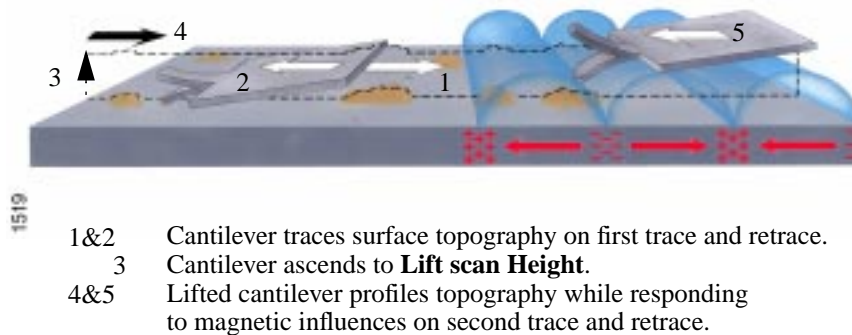
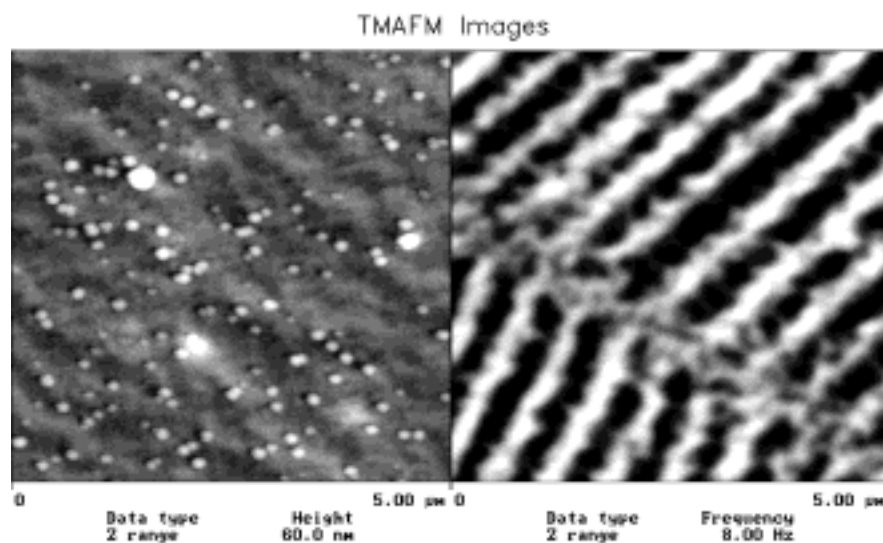
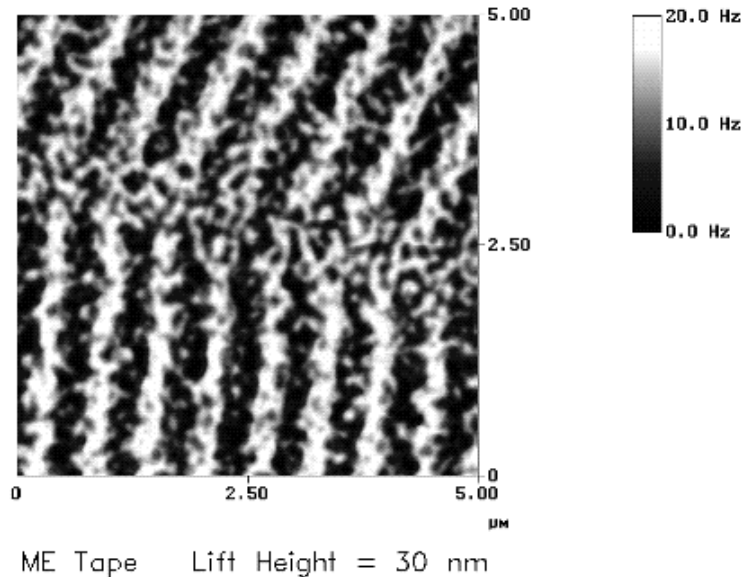

Figure 13.1. MFM LiftMode principles.
Figure 13.7. Topographic (left) and magnetic force gradient image (right) of metal evaporated tape at 100 nm *Lift scan height*.
Figure 13.8. High-resolution magnetic force gradient image of metal evaporated tape at 30 nm *Lift scan height*.
In MFM, a tapping cantilever equipped with a special tip is first scanned over the surface of the sample to obtain topographic information. Using **LiftMode** as shown in Figure 13.1, the tip is then raised just above the sample surface. The surface topography is scanned while being monitored for the influence of magnetic forces. These influences are measured using the principle of *force gradient detection*. In the absence of magnetic forces, the cantilever has a resonant frequency f_0 . This frequency is shifted by an amount Δf proportional to vertical gradients in the magnetic forces on the tip. The shifts in resonant frequency tend to be very small, typically in the range 1-50 Hz for cantilevers having a resonant frequency $f_0 \sim 100$ kHz. These frequency shifts can be detected three ways: **phase detection**, which measures the cantilever's phase of oscillation relative to the piezo drive; **amplitude detection**, which tracks variations in oscillation amplitude; and **frequency modulation**, which directly tracks shifts in resonant frequency. **Phase detection** and **frequency modulation** produce results that are generally superior to **amplitude detection**.
LiftMode allows the imaging of relatively weak but long-range magnetic interactions while minimizing the influence of topography (Figure 13.1). Measurements are taken in two passes across each scanline; each pass consists of one trace and one retrace. In the first pass, topographical data is taken in TappingMode on one trace and retrace. The tip is then raised to the lift scan height and a second trace and retrace performed while maintaining a constant separation between the tip and local surface topography. Magnetic interactions are detected during this second pass. Using LiftMode, topographical features are virtually absent from the MFM image (see Figure 13.7).
5. Under **Scan Controls**, set the **Scan size** to **5 μm** and **Scan rate** to **1–2 Hz**. For the left image, set the **Z range** to **75 nm** and the **Line direction** to **Retrace**. Engage the AFM and make the necessary adjustments to obtain a good topographical image while displaying height data. Use the maximum possible **Setpoint** to ensure that the tip is contacting the surface only lightly. The image should be similar to the topographic image shown on the left of Figure 13.7. The surface is fairly flat with lubrication nodules of various sizes. A good image of the nodules provides a check that the tip is sharp.
7. Change **Interleave mode** to **Enable** to invoke **LiftMode**. Set the Channel 2 **Scan line** to **Interleave** to display the interleaved data. (This can only be done after **Interleave mode** is **Enabled**.) A magnetic force gradient image similar to that shown on the right of Figure 13.7 should appear as the Channel 2 image. The alternating dark and light stripes represent the recorded magnetic information, and signify a varying resonant frequency and hence magnetic force gradient on the tip. As usual, keep the **Setpoint** as large as possible while consistent with a good image. Wider scans ($> 25 \mu\text{m}$) will reveal separate tracks in which the magnetic stripes are at different angles.
For example, the image of metal-evaporated tape in Figure 13.7 has a resolution limited by the 100 nm **Lift Scan height**. To improve the resolution, try reducing the **Lift scan height** to ~ **25 nm**. Ensure that the tip does not strike the surface on the low point of its swing in the Lift image. Tip strikes appear as black or white spots, or even noisy, high-contrast streaks crossing the image. If the tip begins to strike the surface, reduce the **Interleave Drive Amplitude**. (In general, MFM tips are not damaged by intermittent tip strikes, except in extreme cases of very large amplitude and small lift heights.) An example of an image of the metal-evaporated tape taken with a **Lift scan height** of **30 nm** is shown in Figure 13.8. Note the fine magnetic structure that is not visible in Figure 13.7. When imaging a sample for the first time, begin with moderate **Lift scan heights (50 nm or greater)**, then adjust downward. On relatively smooth samples (e.g., hard disks), lift heights down to 0 nm can be used, as long as the drive amplitude is adjusted accordingly. (Lift scan heights of 0 nm still correspond to a non-zero mean tip-sample distance. See the section on **Set-point** below.) It is usually not beneficial to use **Lift scan heights** much smaller than the surface roughness. Users are encouraged to experiment for the best images on their samples.